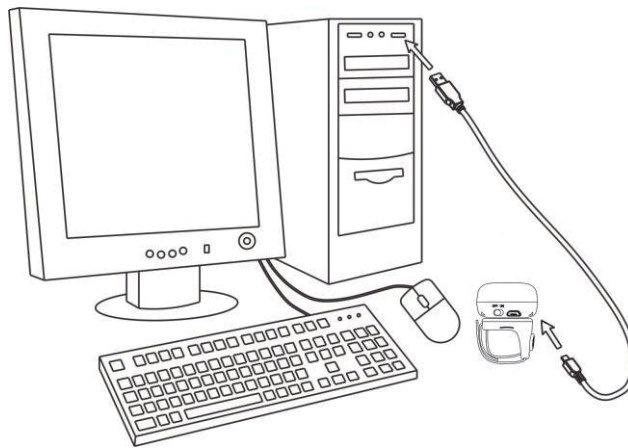

Figure 2-1 Diagram of connecting the scanner to PC
1. Refer to Figure 2-1, plug one end of the USB cable to the scanner. Plug the other end into the USB port of the computer.